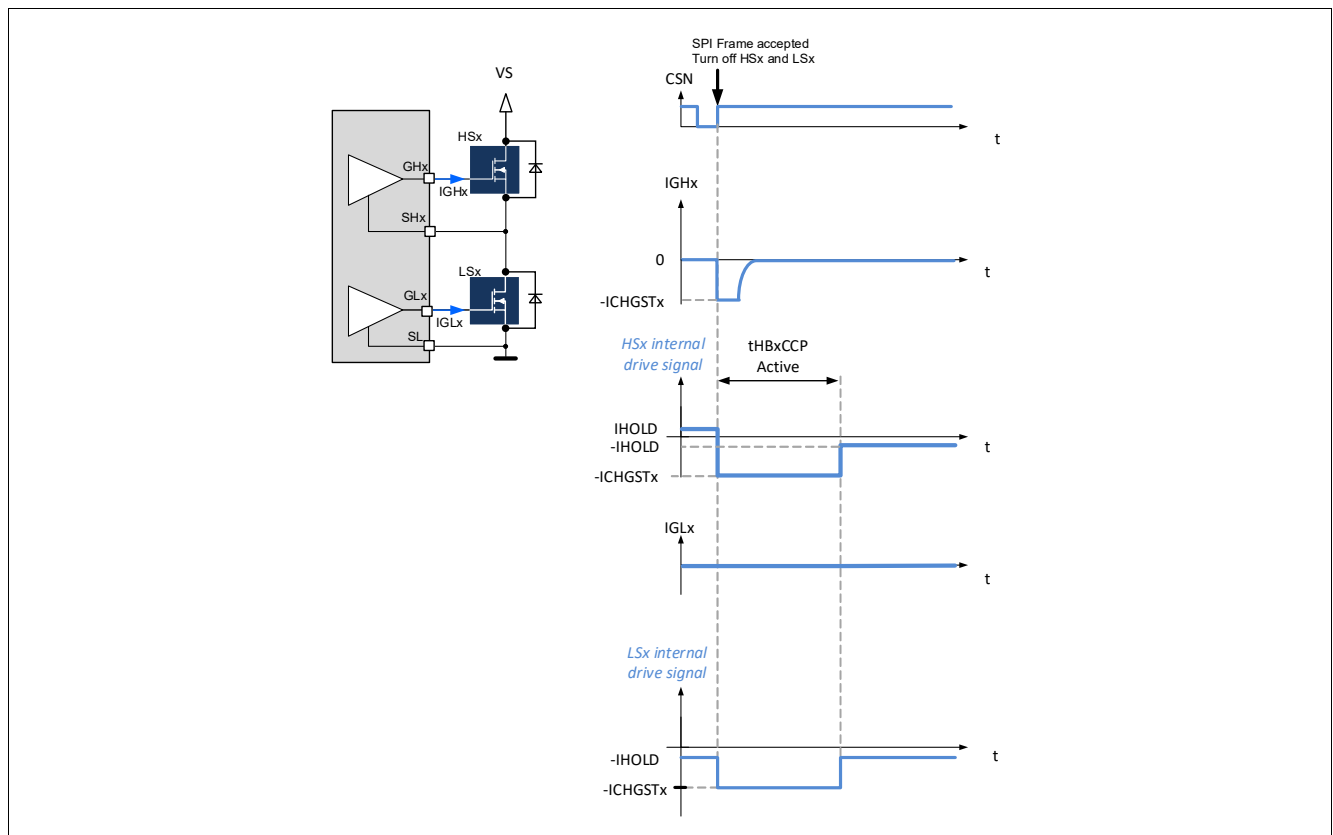

Figure 50 Turn-off of the high-side and low-side MOSFETs of a half-bridge
- The gate of HSx and LSx are discharged with the current $-\text{ICHGSTx}$ for the duration $t_{\text{HBxCCP ACTIVE}}$ (Figure 50).